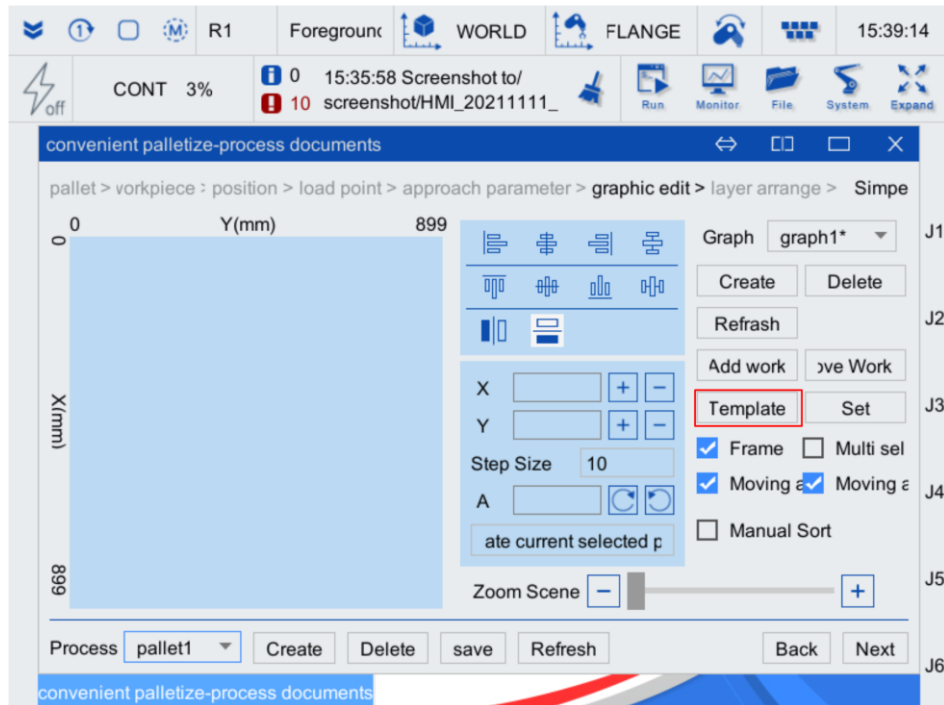

Figure 3-18 Graphic edit interface
Step1. In the " graphic edit" interface, click " Template ", as shown in Figure 3-18.